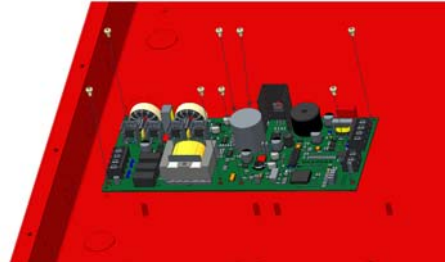

Figure 2 TR-INT50W mounted in the FACP Cabinet under the Main Control Board
3. Secure the board to the enclosure with the supplied screws. See Figure 2.
Figure 2 shows the TR-INT50W board mounted in the FACP cabinet under the main control board.